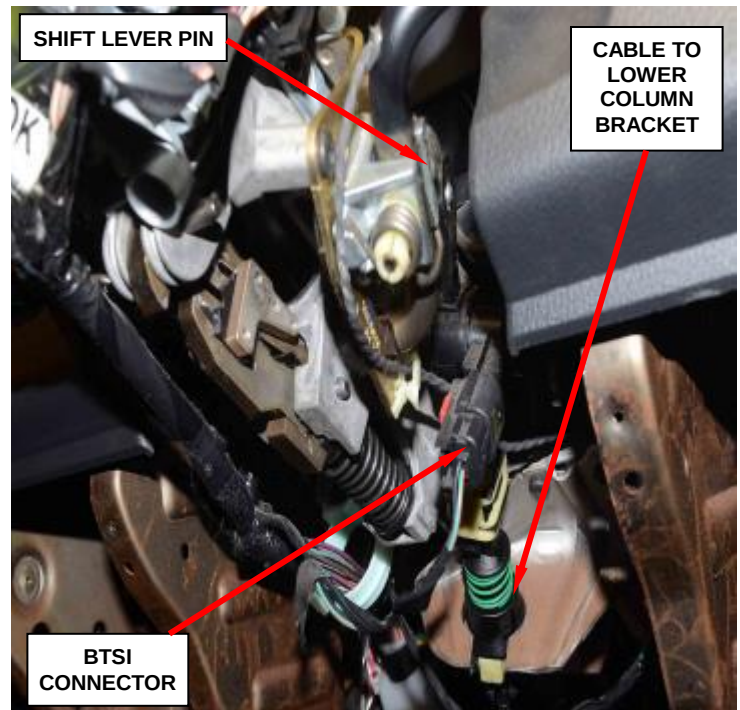

Figure 130 – Gear Shift Cable
3. Remove the driver and passenger side door sill trim cover (Figure 130).
4. Remove the driver and passenger side instrument panel end caps (Figure 130).